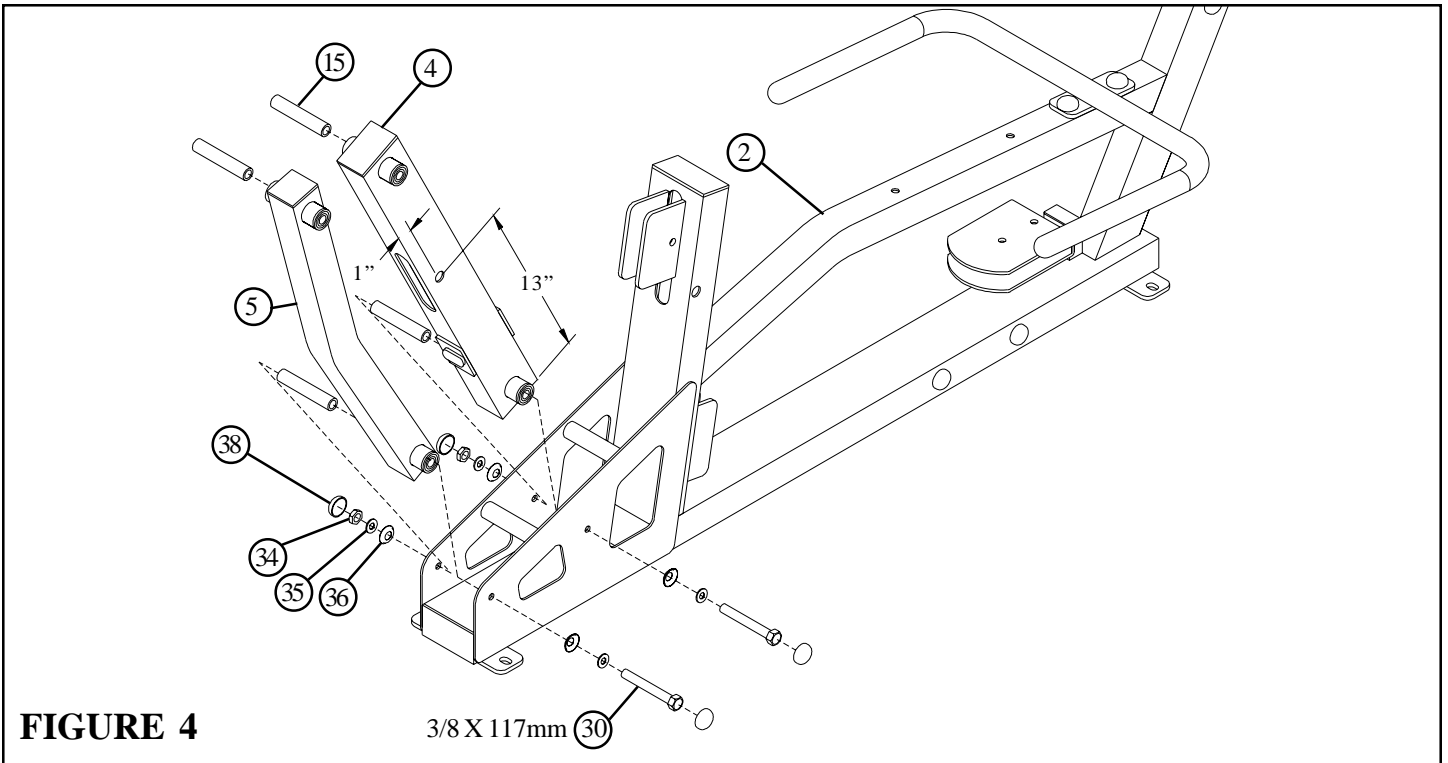

FIGURE 4
- Assemble four 3/4 X 4" PIVOT SHAFTS (15) to the MAIN & SECONDARY PIVOT ARMS (4 & 5) as shown in FIGURE 4.
- **SECURELY** assemble the MAIN & SECONDARY PIVOT ARMS (4 & 5) to the LEG PRESS FRAME (2) using four RH CAPS (38), two 3/8 X 117mm BOLTS (30), four 3/8" SAE WASHERS (35), four 3/8" RH WASHERS (36) and two 3/8" LOW HEIGHT LOCK NUTS (34) as shown in FIGURE 4. (**NOTE: Make sure the MAIN PIVOT ARM is assembled as shown.**)